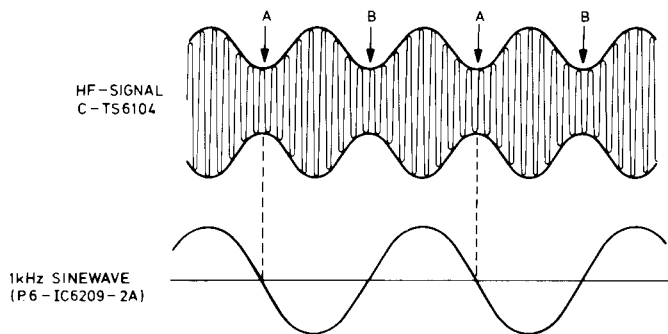

Fig. 10
- Turn screw C clockwise until the grating lens has approximately reached the extreme position and the oscilloscope displays the radial difference signal for the 2.5 and 1.66 μm track pitch (see Fig. 10). If necessary, search for this signal by manually varying the position of the objective slide by rotating the gear wheel.